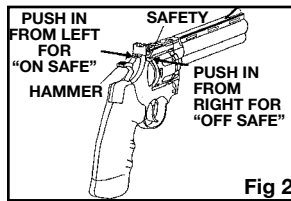

Fig 2
- Locate the safety below the rear sight. (Fig. 2) Pull the hammer back slightly and with your other hand, push the safety from the left side all the way in. The safety is not "On Safe" unless it is pushed all the way in and the RED mark on the left side of the safety is NOT showing.